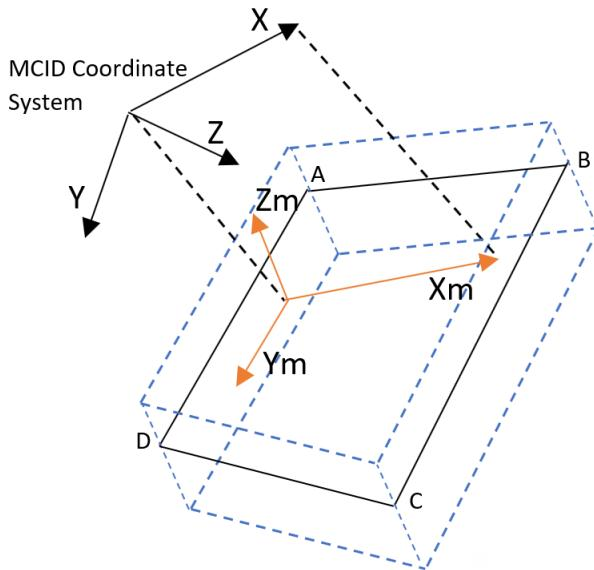

Figure 9-114 Projection Scheme
5. In Figure 9-114, plane ABCD is the layer plane of interest. Z_m is normal to the layer plane (or is the thickness direction). X_m is the projection of the X axis of the MCID coordinate system on the layer plane. $Z_m \times X_m$ gives the Y_m . Angle θ is measured counter-clockwise from X_m axis about the Z_m axis.